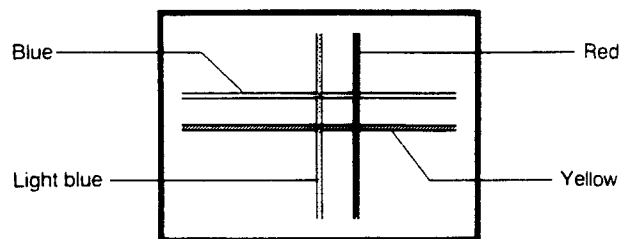

Fig. 2 Horizontal and vertical misalignment
- 4 If you see separate colored lines (Fig. 2 to 4), use the ⑤ R/B, ④ ◀, ⑥ ▶, ② ▲, and ⑧ ▼ buttons on the remote control unit to make the red and blue lines disappear into the other lines. Each time the ⑤ R/B button is pressed, the line to be controlled (red or blue) alternates. Pressing the ④ ◀ button moves the vertical line to the left, while pressing the ⑥ ▶ button moves the vertical line to the right. Pressing the ② ▲ button moves the horizontal line upward, while pressing the ⑧ ▼ button moves the horizontal line downward. In figure 2, for example, press the ⑤ R/B button to control the red line, and then press the ④ ◀ button until the red line converges.